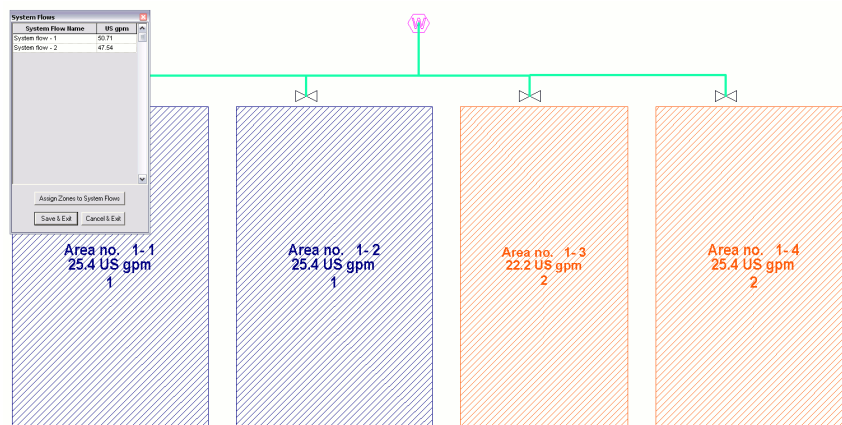

Figure 4-50
15. Now click on Area no. 1-3 and Area 1-4, then *Right-click/Assign to Sys Flow*. Make sure the "System Flow Number" has changed to **2**. Click **[OK]**. See Figure 4-50.